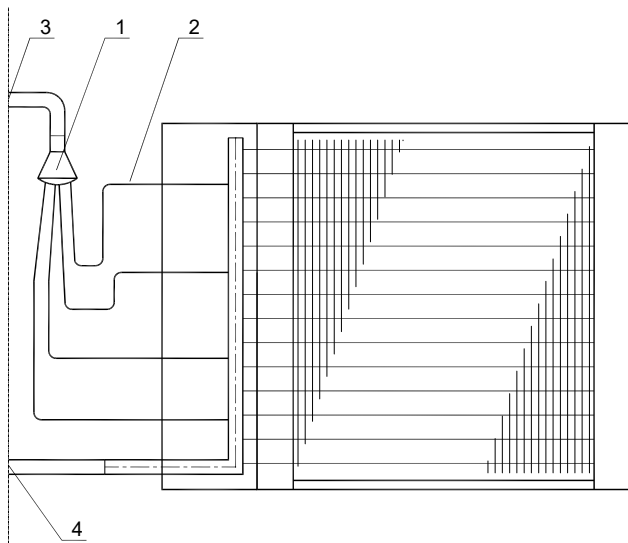

Figure 22
- The cooling section with a direct expansion coil (DX) is mounted inside the casing, while the connections are accessed from the outside - see Figure 22.